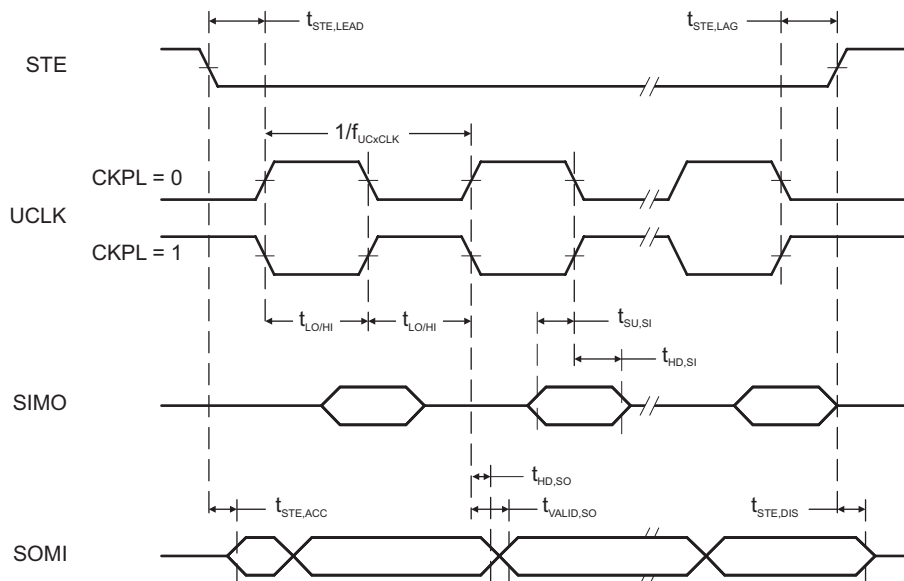
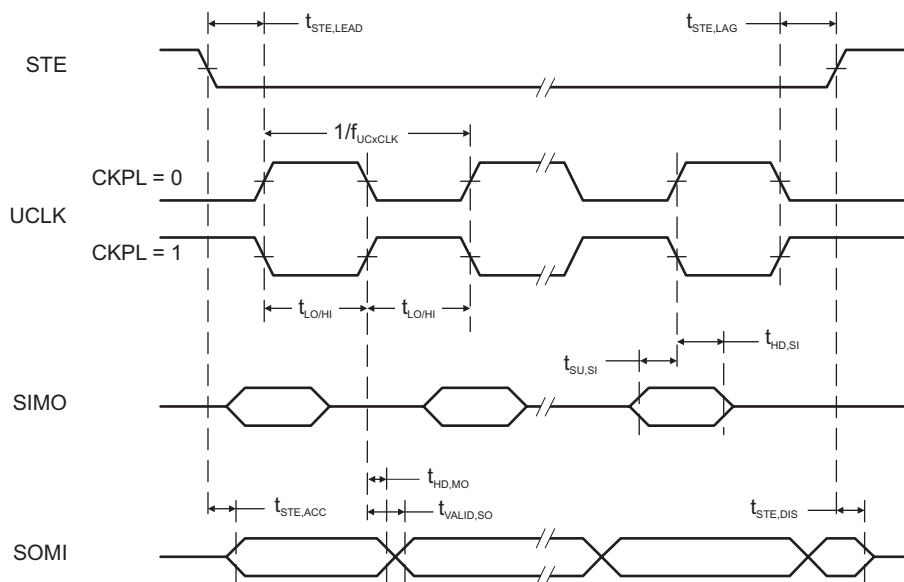

Figure 5-13. SPI Slave Mode, CKPH = 0
Figure 5-14. SPI Slave Mode, CKPH = 1
(see Figure 5-13 and Figure 5-14)
- ⁽²⁾ Specifies the time to drive the next valid data to the SOMI output after the output changing UCLK clock edge. See the timing diagrams in Figure 5-13 and Figure 5-14.
- ⁽³⁾ Specifies how long data on the SOMI output is valid after the output changing UCLK clock edge. See the timing diagrams in Figure 5-13 and Figure 5-14.